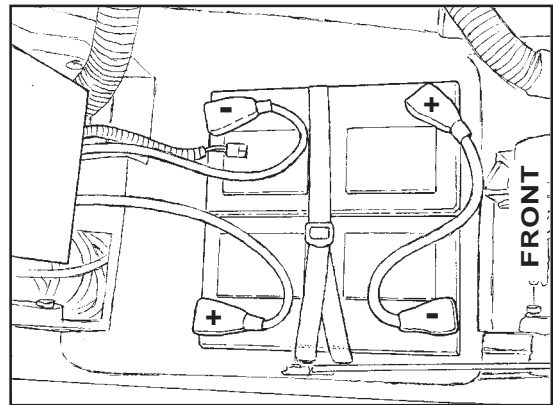

Figure 11
- Place the batteries in the compartment shown in Figure 11.
- Connect the cable between the batteries and install the long machine cables as indicated (See Figure 11).